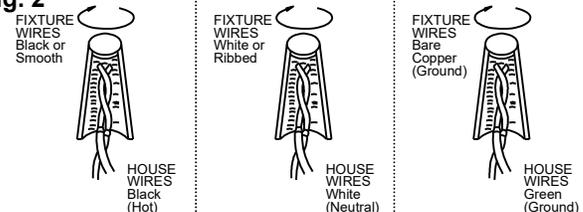

Fig. 3
6. Place fixture body (D) onto mounting plate (A) followed by plastic washer (E) and secure with screws (C).
7. To prevent moisture from entering outlet box and causing a short, use clear caulking (i.e. Indoor/Outdoor Silicone Sealant) to outline the outside of fixture back-plate where it meets the wall leaving a space at bottom to allow moisture a means to escape (Fig.3).
8. Install (1) one candelabra base bulbs (G) up to 60 watts each or CFL or LED equivalent (not included) in accordance with the fixture specification—**DO NOT EXCEED THE MAXIMUM WATTAGE RATING! (NE PAS DEPASSER LA PUISSANCE NOMINALE MAXIMALE!)**
9. Place glass shade (H) over socket (F) and twist until secured on socket cup.